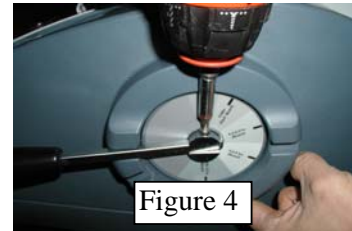

Figure 4
- c. Loosen two screws from Sub-PCB and install on to new Right Cover. Figure 4
- b. Remove the lever knob screw and lever (Figure 4).